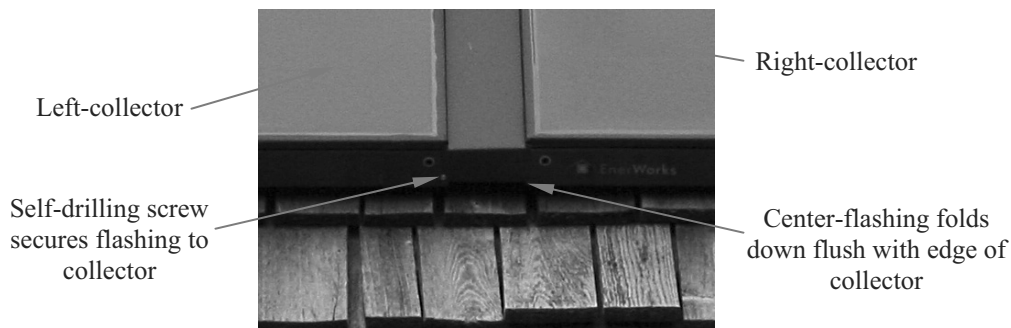

Fig.6.2.2 – Center-flashing folds down flush with edge of collector (2, 3 and 4-collector Appliances).
2. Fold ends of center-flashing sections down such that they are flush with collector side-wall edge. Secure center-flashing sections to upper and lower side-walls with self-drilling screws. If leaf guard is to be installed, do not fold down upper center-flashing length until leaf guard is in place (Fig.6.2.2).